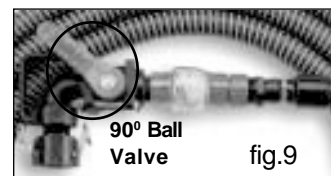

fig.8
**PVC Pump Out Hydrant 270PC-200 fig.8: (Optional - Must be ordered separately)**